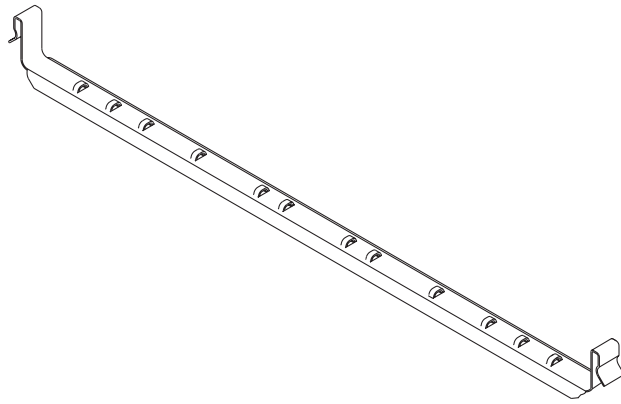

FIGURE 2-13 Cable Management Bracket
13. Hook the cable management bracket over the slide mounts at the rear of the system, as shown in FIGURE 2-13.